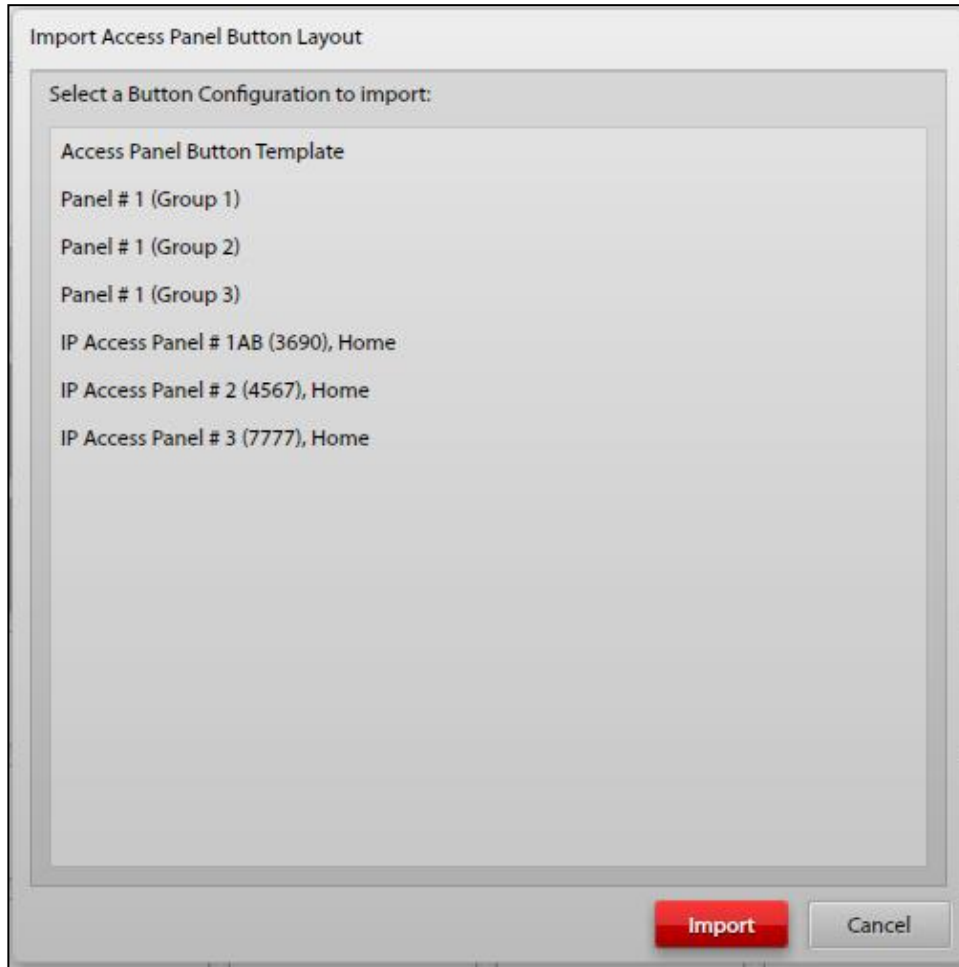

Figure 39. Import Access Panel Button Layout
- **IMPORT Button**—imports access panel button layouts and overwrites the current button page with the buttons defined in the selected button configuration. Click **IMPORT** or **CANCEL** to complete the operation (see Figure 39).